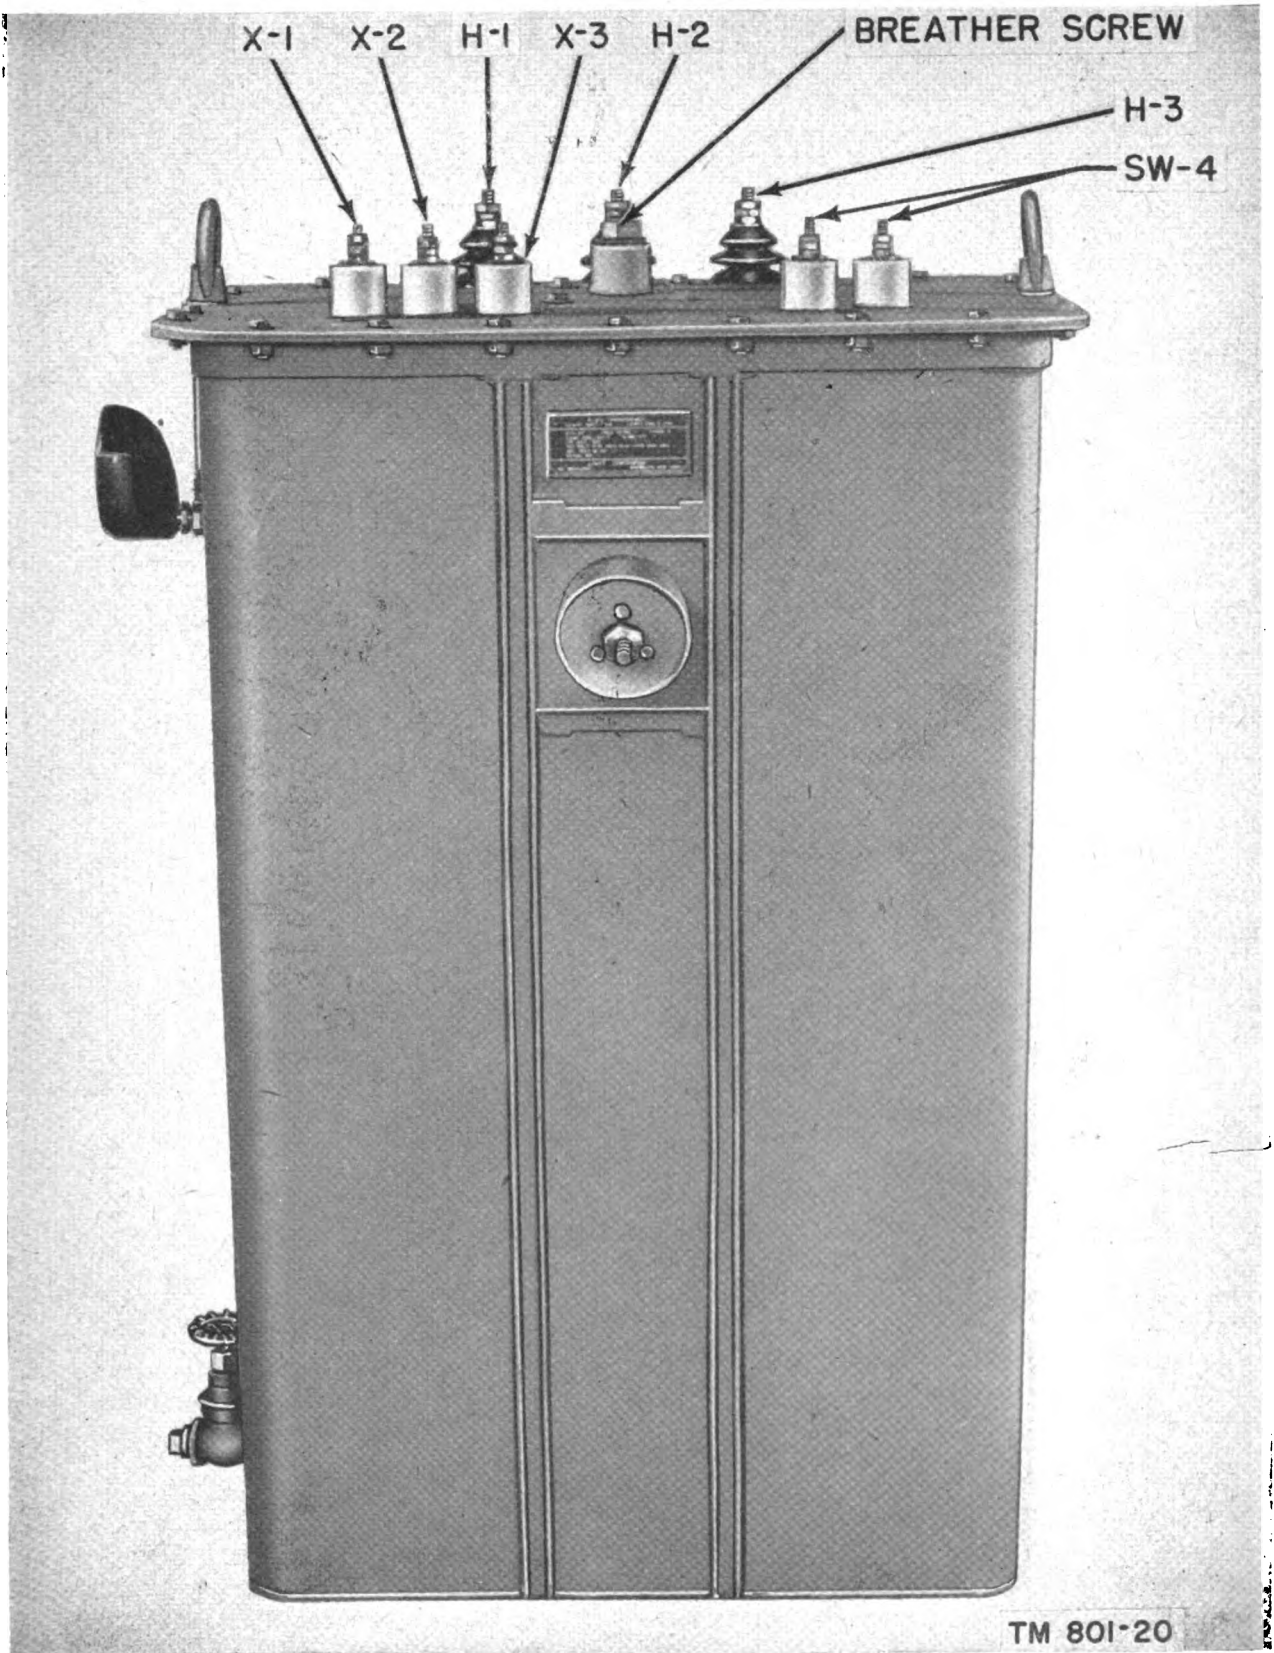

Figure 33. Plate transformer T-1.
d. PLATE TRANSFORMER T-1 (fig. 33). Using a wrench, turn the transformer detent to the extreme counterclockwise position. This will align the transformer wheel dial numbers (position 1 extreme counterclockwise) with the detent positions. Before